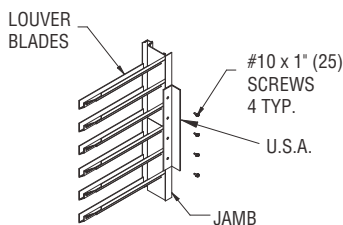

FIG. 3.2 - JAMB SPLICE AT ARCHITECTURAL HORIZONTAL MULLION
5. Install Universal Splice Angle (U.S.A.) to vertical jamb and Hidden Blade Support Angle Splice (H.B.S.A. Splice) where required. See Fig. 3.2 and 3.3 (stationary louvers only).